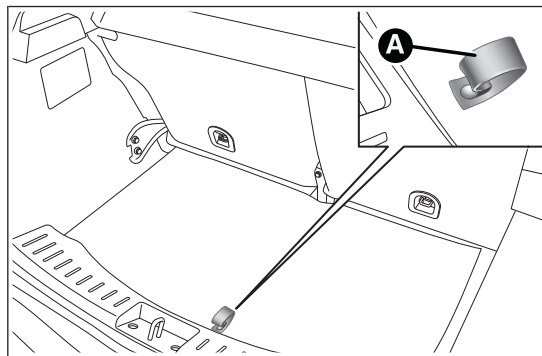

fig. 113
- ❑ open the luggage compartment, pull tab A fig. 113 and lift up the mat;